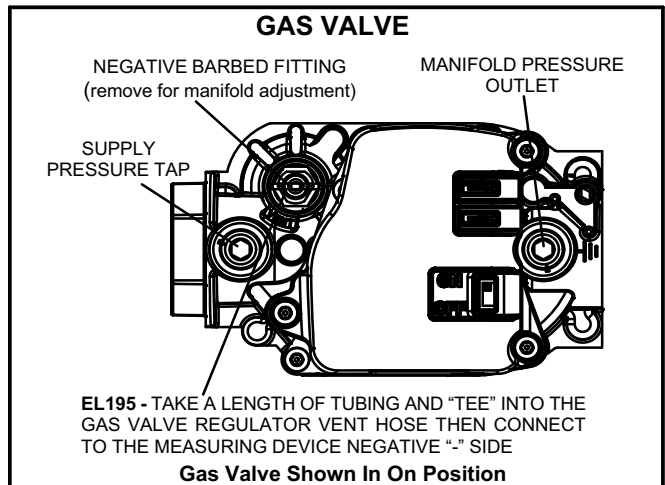

FIGURE 7
- 6 - Move gas valve switch to **OFF**. See figure 7.
- 7 - Wait five (5) minutes for any gas to clear out. If you then smell gas, **STOP!** Immediately call your gas supplier from a neighbor's phone. Follow the gas supplier's instructions. If you do not smell gas, go to the next step.
- 8 - Move gas valve switch to **ON**. See figure 7.
When testing supply gas pressure, use the 1/8" N.P.T. supply tap located on the gas valve to facilitate test gauge connection. See figure 7. Check gas line pressure with unit firing at maximum rate. Low pressure may result in erratic operation or underfire. High pressure can result in permanent damage to gas valve or overfire.
When testing manifold gas pressure, use the 1/8" N.P.T. plugged tap (manifold pressure outlet) located on the gas valve to facilitate test measuring device. See figure 7.
- 7 - Remove the negative barbed fitting as shown in figure 7 and using a screw driver make adjustment to increase or decrease manifold pressure.